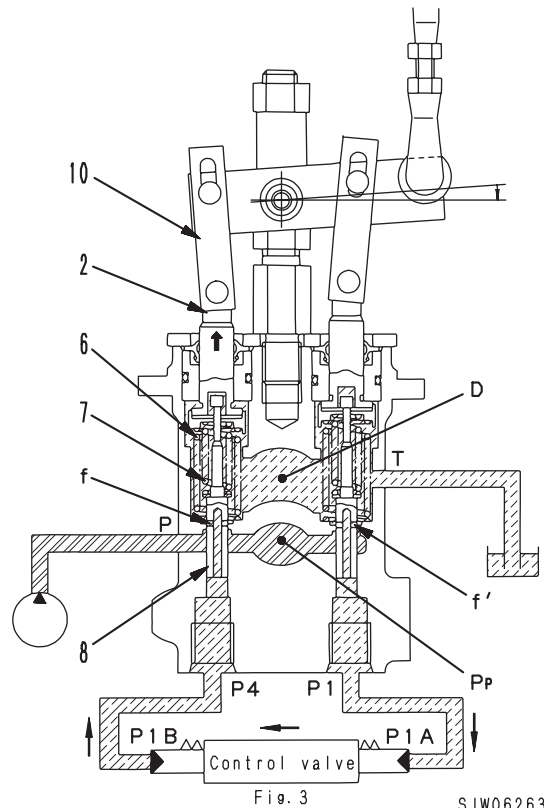

Fig. 3
- Control lever moved back from slightly operated position to hold (Fine control) (Fig. 3):